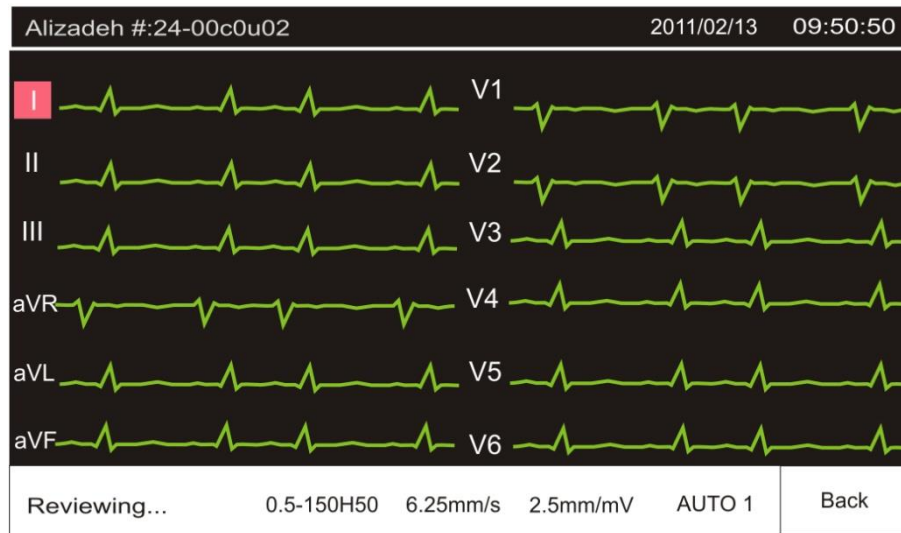

Figure 5-6 Review
- “Reviewing...” is displayed below the screen (Figure 5-6).